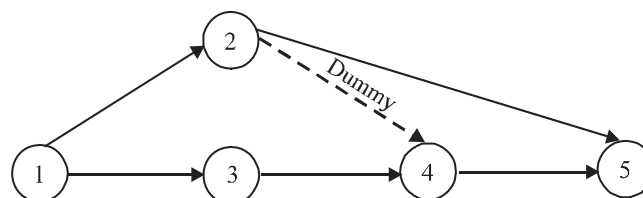
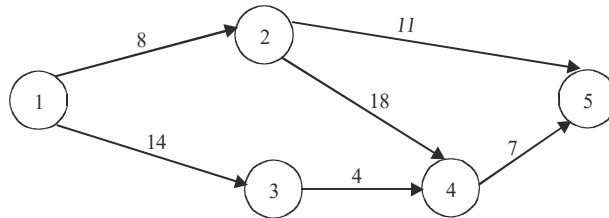

Fig. 10.5
Fig. 10.6
6. There can be some activities happening simultaneously or concurrently and these are called concurrent activities. In order to establish proper relationship, we use the concept of dummy activity. Dummy activity does not consume time or any other input resources. In Fig. 10.5, activity 1-2 and 3-4 are concurrent activities, but dummy activity 4-2 means that before we undertake activity 2-5, activity 1-2 and 3-4 both should get completed, whereas 4-6 can be undertaken without any reference to 2-5. Similarly in Fig. 10.6, activity 1-2 and 1-3 are concurrent activities. Activity 3-4 can be performed without any relevance of 1-2 being complete or not. But before taking up activity 4-5, activities, 1-2 and 3-4 both should get completed. Thus dummy activity has shown relationships of sequence of such connected activities.